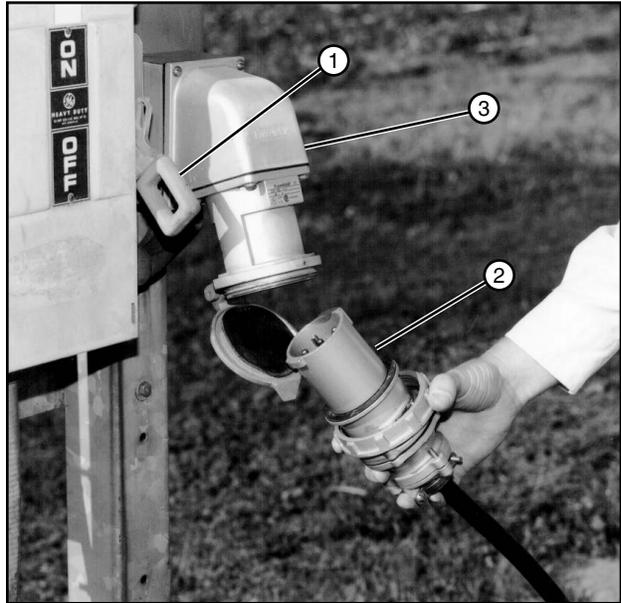

Figure 54-1 1. Service Disconnect - OFF
5. With the service disconnect in the OFF position, unplug the power plug from the receptacle. See Figure 54-1.